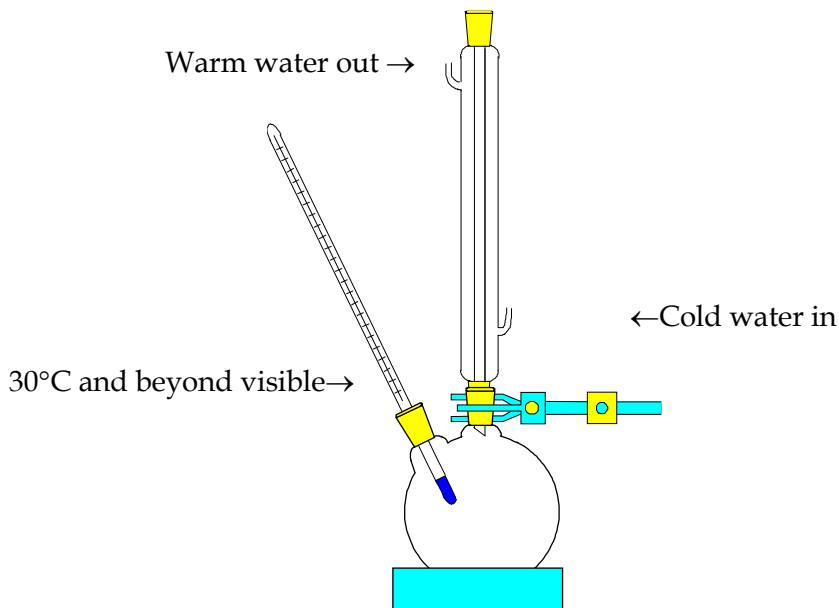

Figure 1
1. Read the description and instructions carefully in the technique part and construct a boiling point apparatus from the flask, condenser, thermometer, tubing, and heating mantle as shown in Fig.1.
5. Calculate number of moles (n) and moles fraction (X) of each solution